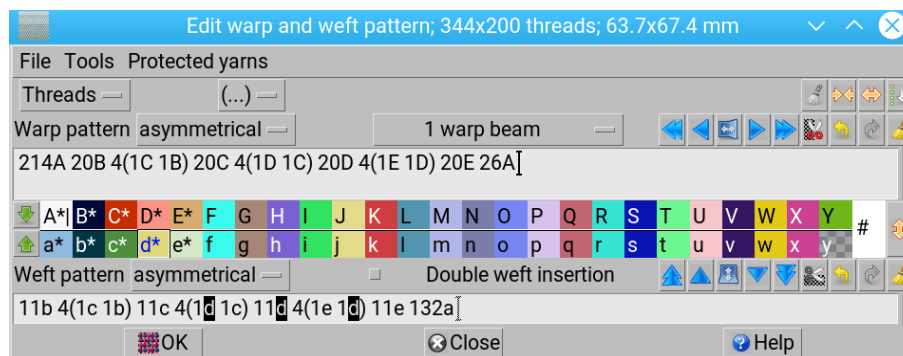

Figure 178: Warp and weft pattern editor
Figure 178 shows a window for entering the warp and weft pattern. The main parts are :
- The letters of warp, which are used in the selvages, are marked by a vertical bar (|) (letter A in Figure 178).
- The last color in the yarn bar (in Figure 178 it is white, labeled with #) is the background color. If the fabric it is transparent, like a curtain, you can see the background color through the fabric.
- Currently selected yarn (d in weft in Figure 178) is highlighted in the pattern, so you can easily find it.